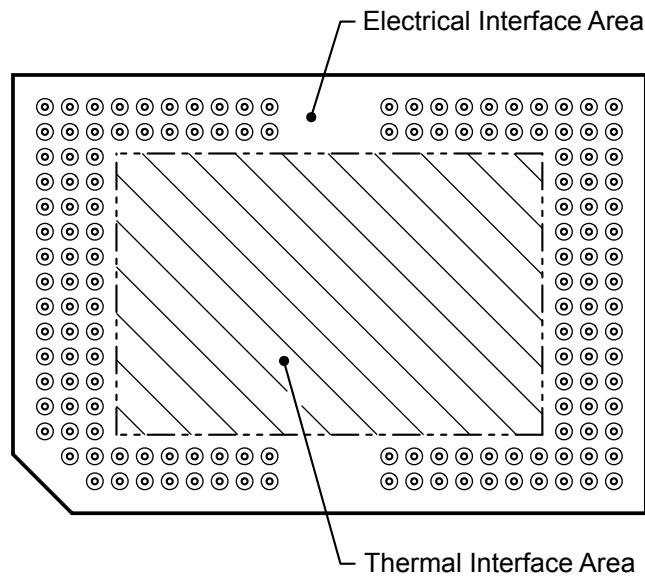

图 6-14. System Mounting Interface Loads
(1) The load should be applied uniformly in the corresponding areas shown in Figure 6-14.